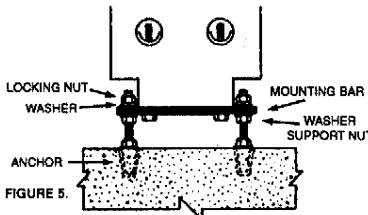

FIGURE 5.
- Insert expansion shields or other floor fastening and position 3/8" threaded rods, each secured with a flat washer and nut at floor level. See figure 5.
- Level headrail from one compartment to the next by adjusting support nuts on the threaded rods. See figure 5.